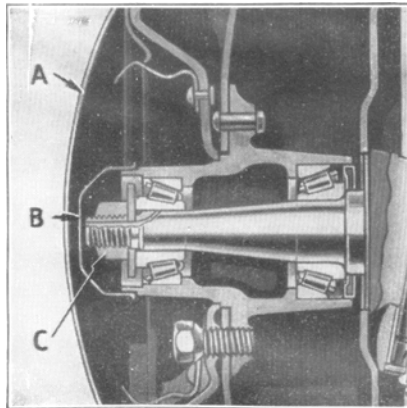

Figure 47
Remove outer and inner hub caps (A) and (B), Fig. 47, using a pry. Remove cotter pin holding nut (C). Turn nut to the right until a slight drag is felt when turning the wheel by hand. Loosen nut just sufficiently to permit wheel to turn freely. Insert cotter pin, replace hub caps and lower car to floor.